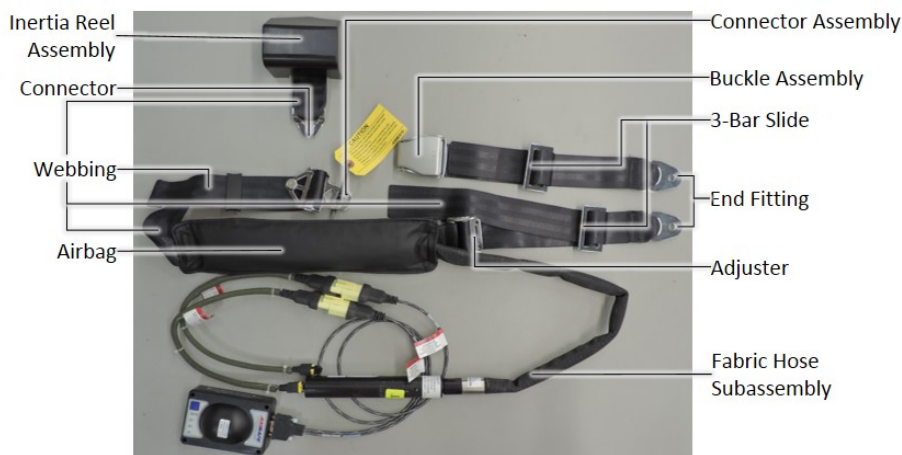

Figure 3. Connector Half, Buckle Half and Shoulder Harness
- 1 The connector half consists of a connector, adjuster assembly, 3-bar slide, webbing, airbag, fabric hose subassembly and an end fitting (Figure 3). The buckle half consists of a buckle, 3-bar slide, webbing and an end fitting. The shoulder harness consists of an inertia reel, webbing and connector.